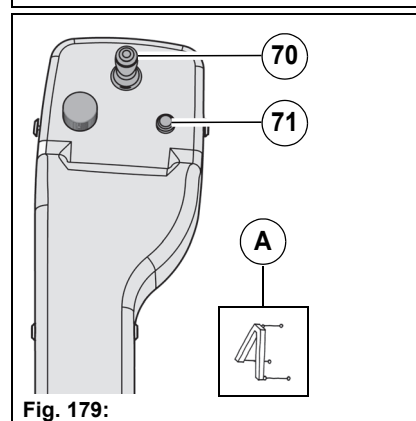

Fig. 179:
1. Switch on the work mode with the Hako button **Fig. 179-71**. The accelerator pedals must be in the neutral position. The coupling triangle work mode symbol appears in the multifunction display **Fig. 179-A**.